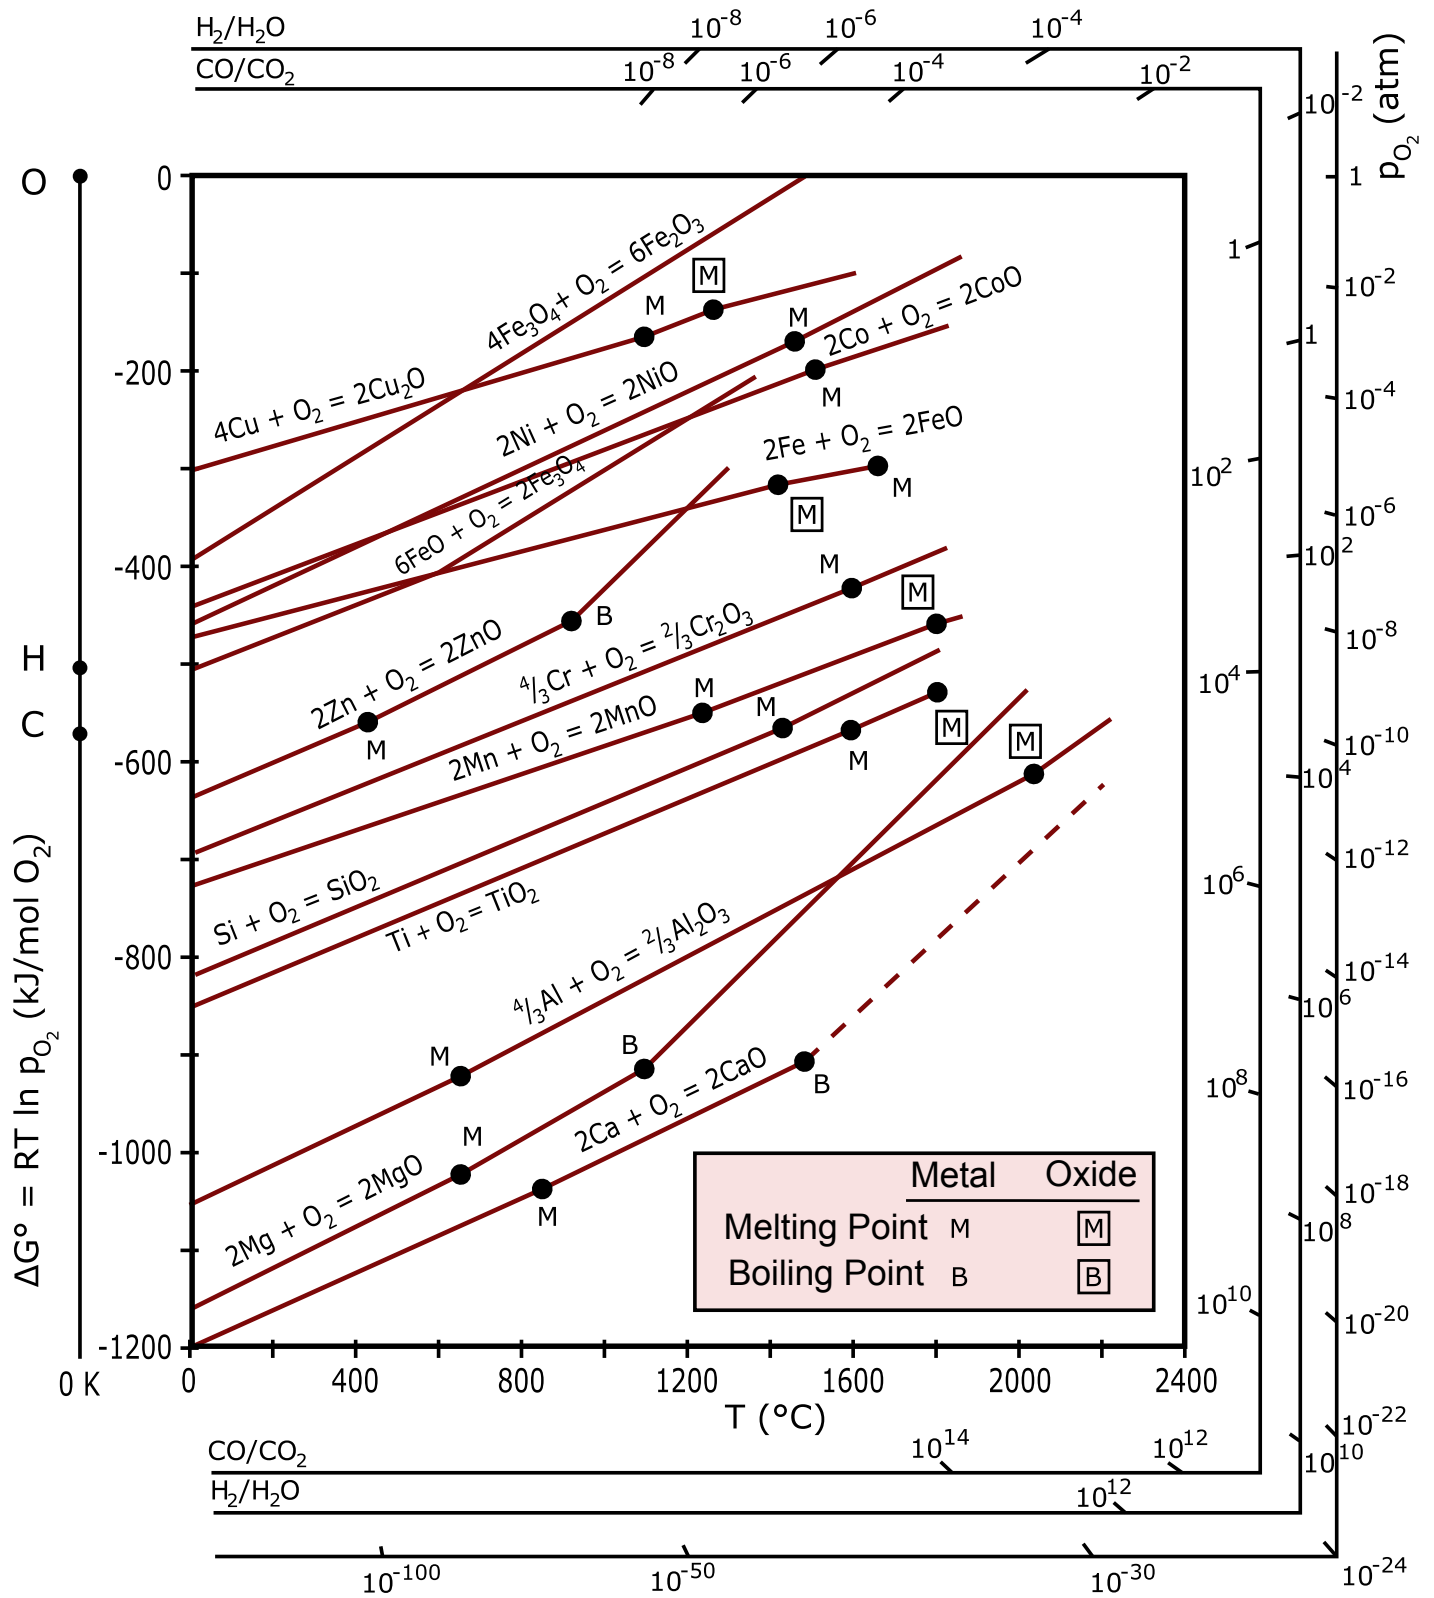

Figure 3.1: Ellingham diagram.
- 1) Use the Ellingham Diagram (reproduced here as Figure 3.1) to answer the following.